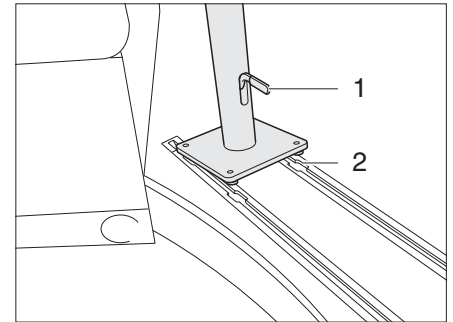

Fig. 41 Table frame holder
- Place the table frame in the holder (Fig. 41,2) and slide it to the desired position.
- Push the locking mechanism (Fig. 41,1) downwards.
- Loosen the locking mechanism (Fig. 41,1) of the table frame.
- Slide the table frame towards the holder (Fig. 41,2) and remove upwards.
- Push the locking mechanism (Fig. 41,1) of the table frame downwards.